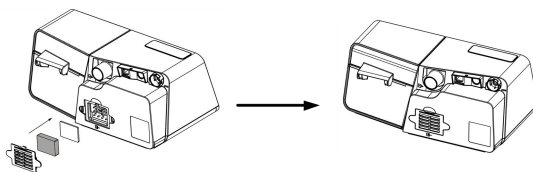

Fig. 18-6
- (3) Install the filter cap containing the reusable air filter and, if applicable, the disposable ultra-fine filter onto the device as shown in Fig. 18-6.